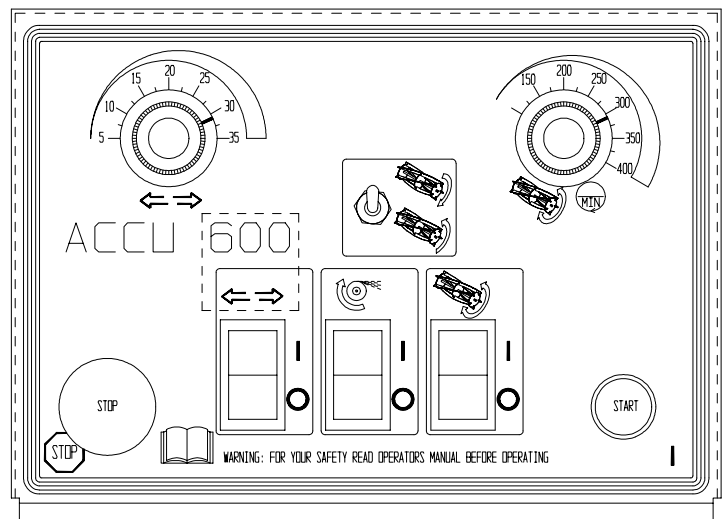

FIG. 57
- I. Turn on grinding wheel motor on main control panel. Now slowly infeed the grinding wheel until it just make contact with the reel. See FIG. 57.